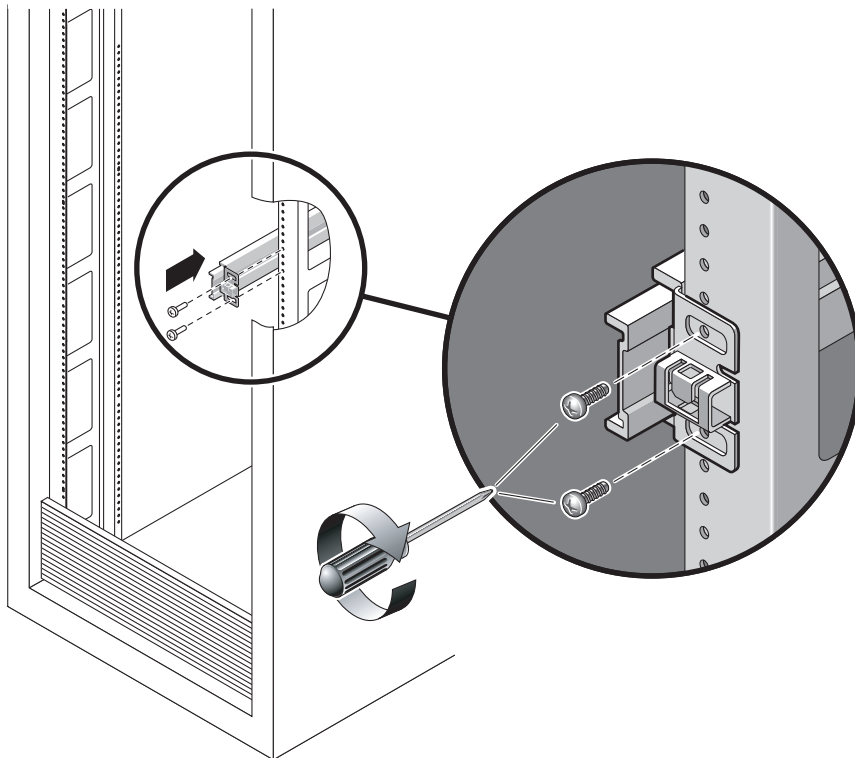

FIGURE 2-5 Mounting a Slide Rail
- a. Loosely attach the front of a slide rail to the right front rack post (FIGURE 2-5) using two screws.**